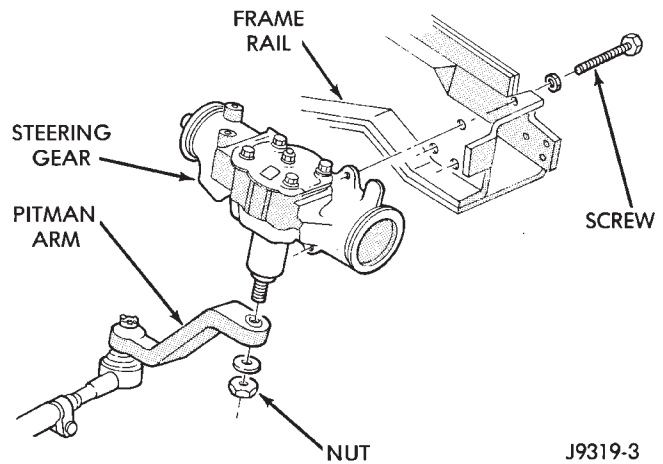

Fig. 6 Steering Gear Mounting
- (1) Place the front wheels in the straight ahead position with the steering wheel centered.
- (2) Disconnect and cap the fluid hoses from steering gear. Refer to Pressure and Return Hose Replacement in this group.
- (3) Remove the column coupler shaft from the gear. Refer to the removal procedures in this section.
- (4) Remove pitman arm from gear. Refer to Pitman Arm Removal in the Steering Linkage section.
- (5) Remove the steering gear retaining bolts and nuts. Remove the steering gear from the vehicle (Fig. 6).